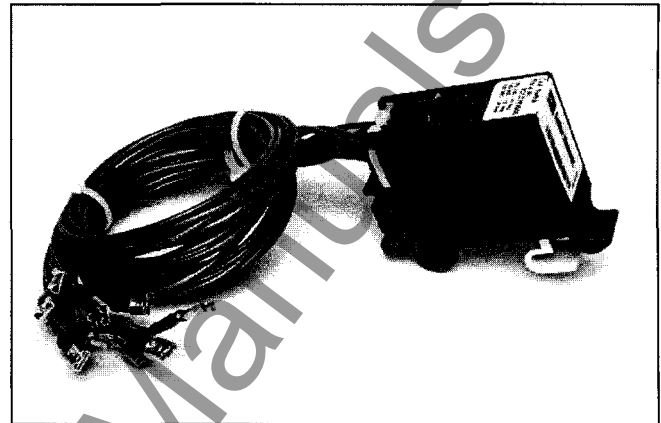

Figure 3-49 Cell Switch (Drawout Position Indicator) Unmounted
**Cassette Cell Switch** - The cassette cell switch is a compartment position switch for drawout circuit breakers. It is available in a 2a2b or 4a4b contact configuration, and mounts on the right side of the cassette (Figure 3-49 and 3-50). Refer to the Ratings Table 3.6 for cell switch contact information. The cell switch changes status between the TEST and CONNECT positions.